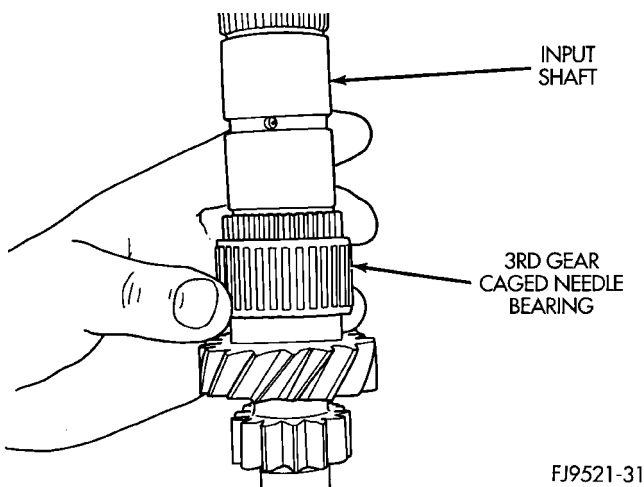

Fig. 89 3rd Gear Caged Needle Bearing
(11) Remove 3rd gear caged needle bearing (Fig. 89). Check the caged needle bearing for a broken retention spring.